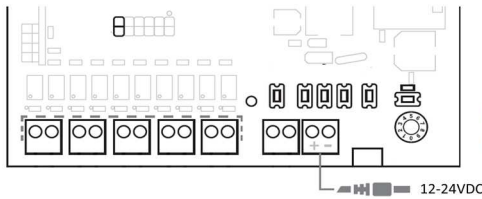

Fig. 4 Z-Wave2RTS interface requires power supply only
- 1.1 Disconnect the power (fig.4)